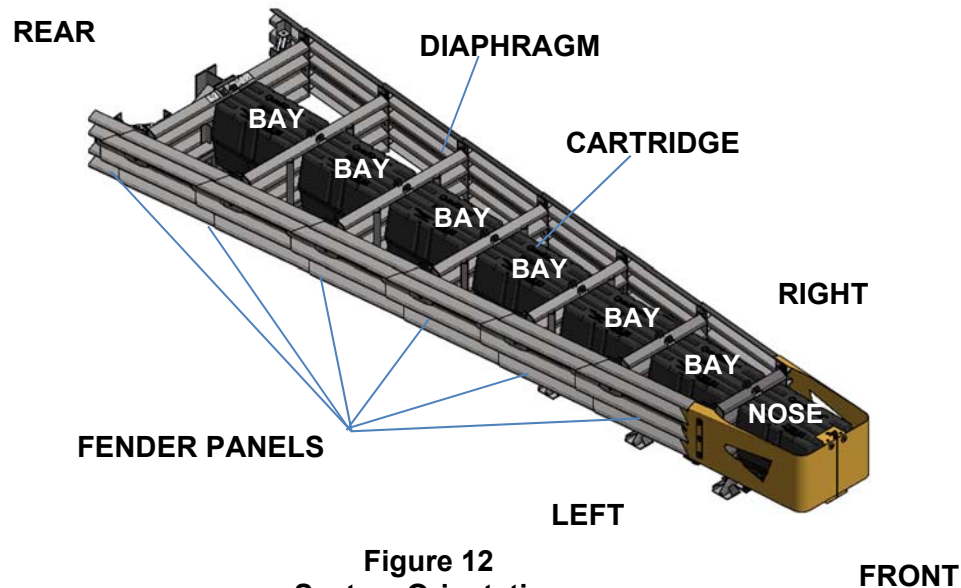

Figure 12
**Note:** There will always be one more Cartridge in the system than the number of Bays in the system. To determine number of Bays, count Fender Panels on one side (Figure 12).